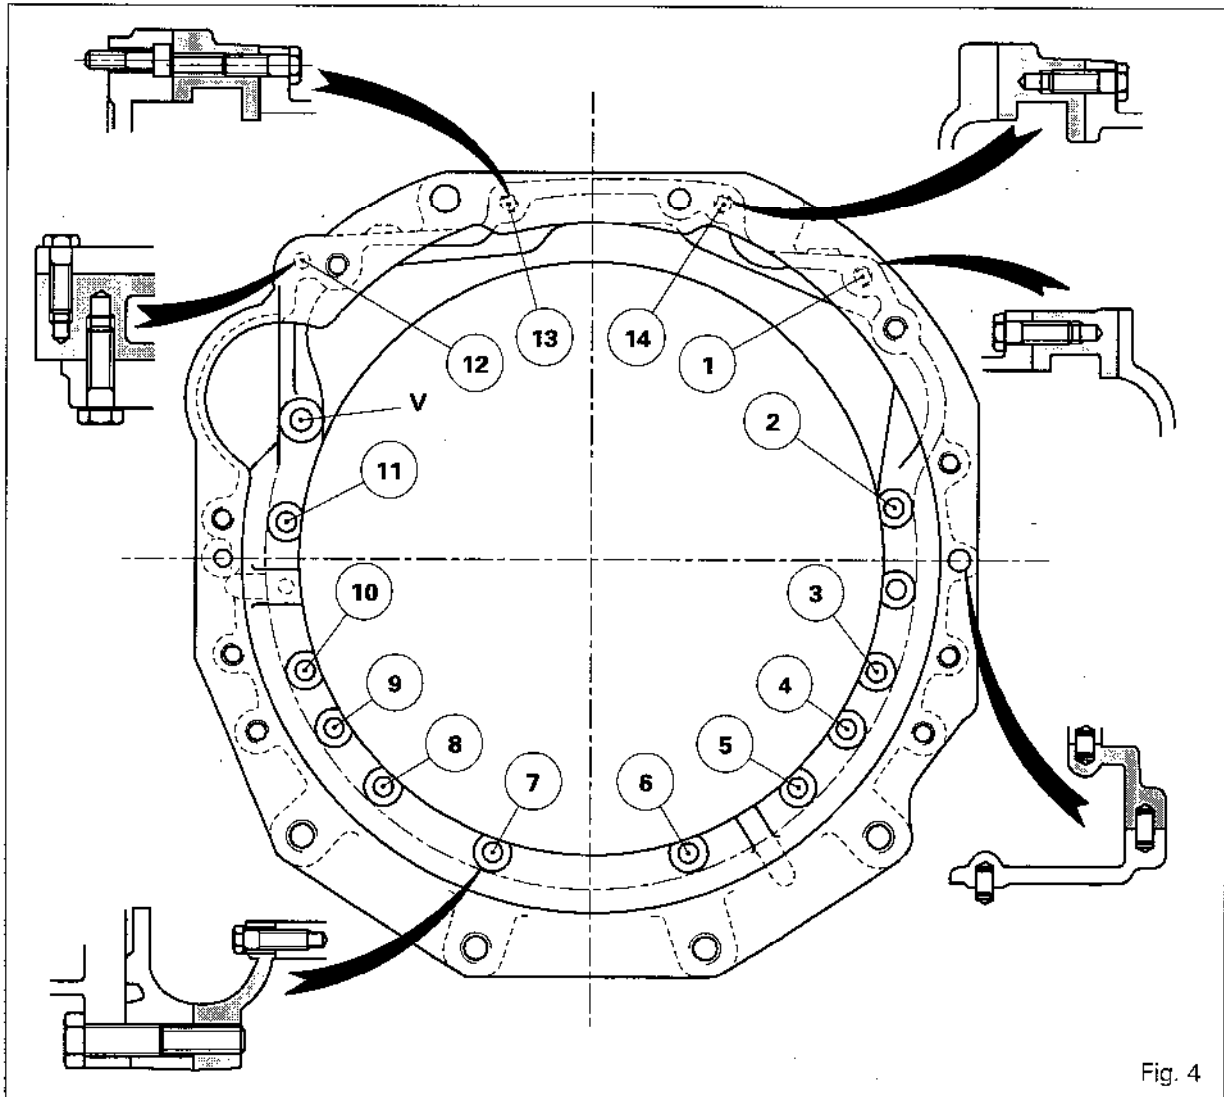

Fig. 4
9. Remove two attachment screws **(3)** **(11)** (Fig. 4) in the spacer and replace with two guide studs.
14. Install the spacer. Remove the guide studs. Tighten screws **(1)** to **(14)** to 100 - 130 Nm (Fig. 4), previously coated with Loctite 270, making sure that the **"V"** countersunk head screw is in the right place (no Loctite, Fig. 4).